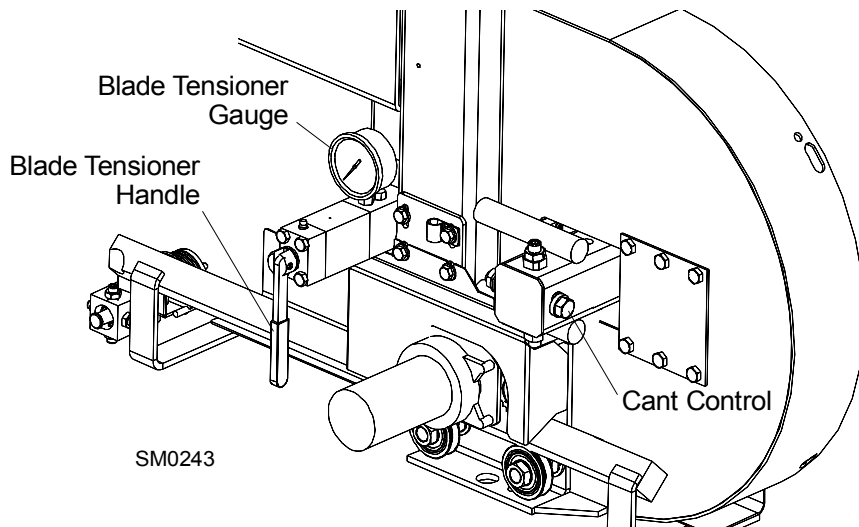

FIG. 3-5
See **Figure 3-5**. The figure below shows setup of the sawmill, the control box and the cable guide columns.
See **Figure 3-5**. Tension the blade by turning the hydraulic tensioning handle clockwise until the tension gauge indicates the recommended tension.
4. To adjust where the blade travels on the blade wheels, use the cant control shown in Figure 3-5.